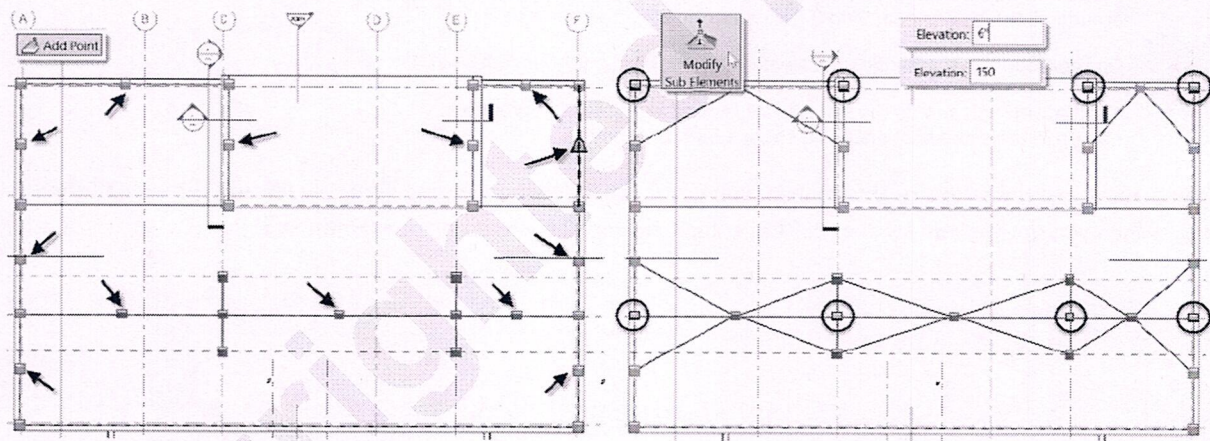

FIGURE 9.57 Add points at several midpoints
- ⇒ Repeat at each location shown on the left side of Figure 9.57. Snap to midpoints at all locations.
- ⇒ Select each point circled on the right side of Figure 9.57 and edit the Elevation to: 6" [150].